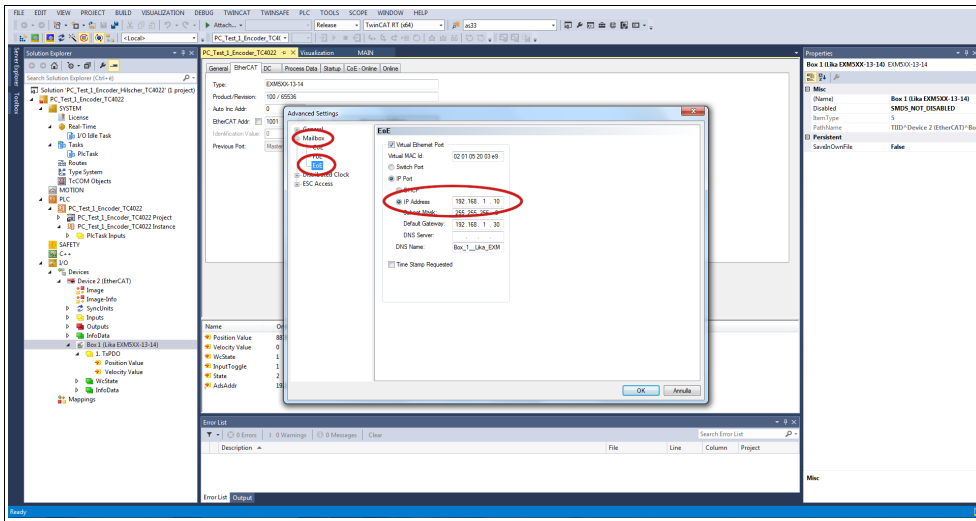

Figure 57 – Advanced Settings page
- In the **Advanced Settings** page open the **Mailbox** list and then press the **EoE** command: the **EoE** group box will be displayed. Check the assigned IP address next to the **IP Address** item (192.168.1.10 in Figure 57).